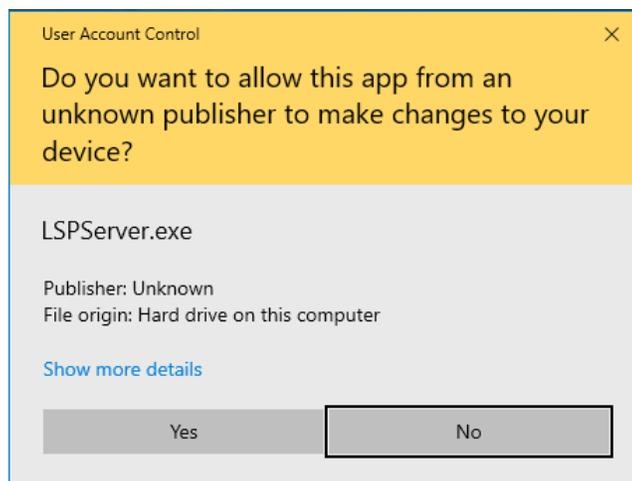

Figure 7
9. Click "Yes" or "Run" if the warning regarding "unknown publisher" appears (Figure 7).